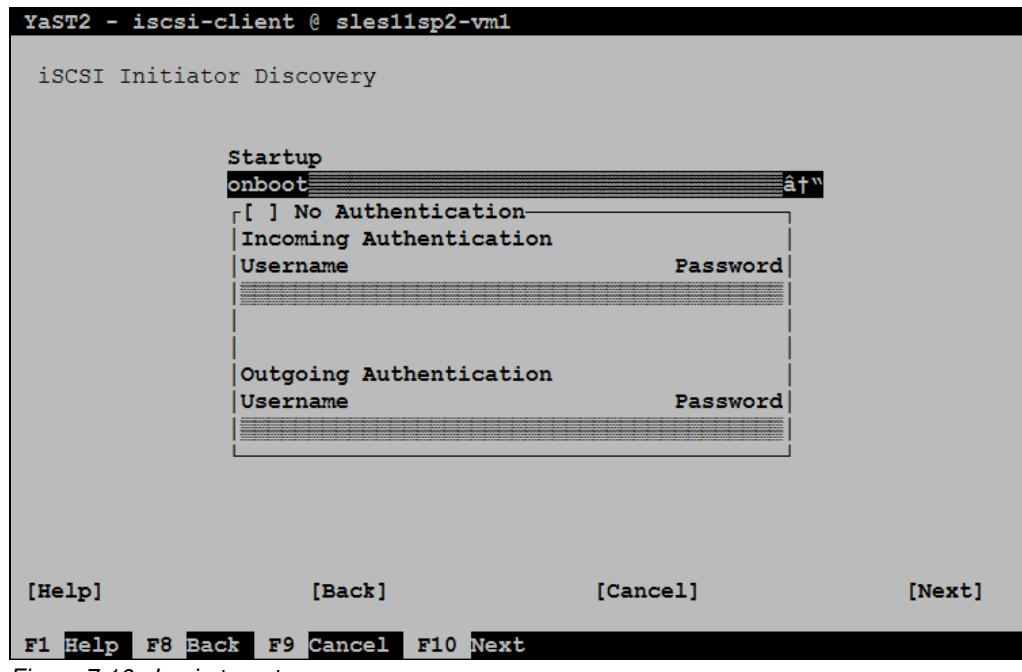

Figure 7-16 Login targets
b. Select Next, as shown in Figure 7-16, and repeat the same procedure for each target.